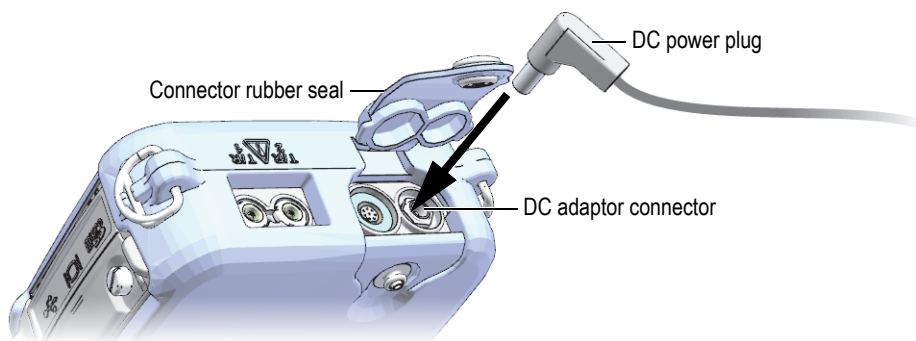

Figure 2-3 Connecting the DC power plug
2. On the 39DL PLUS, lift the rubber seal covering the DC adaptor connector on top of the 39DL PLUS (see Figure 2-3 on page 49).
3. Connect the DC power plug from the charger/adaptor to the DC adaptor connector (see Figure 2-3 on page 49).